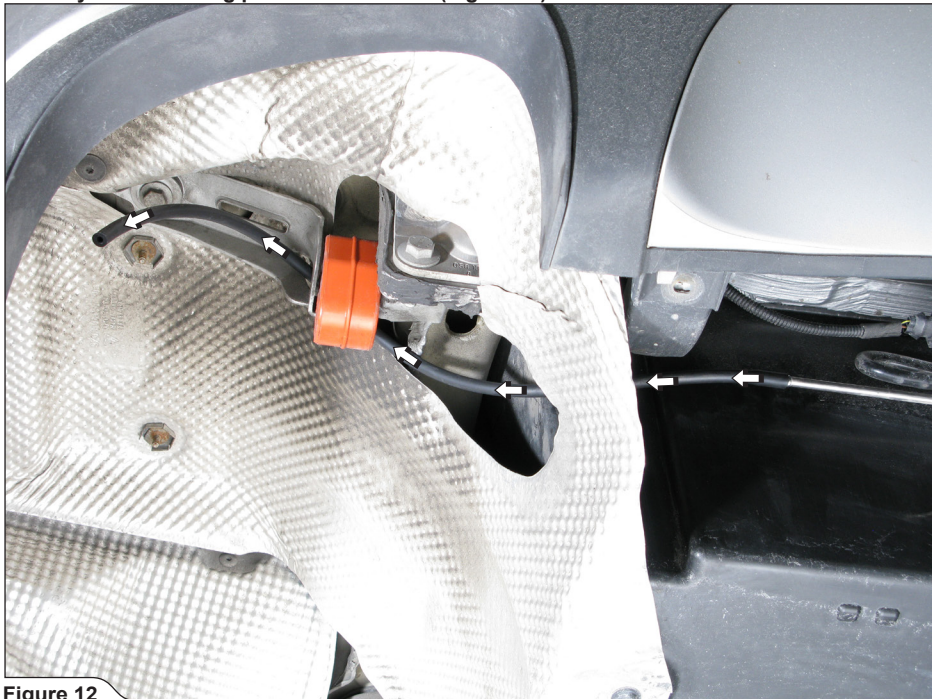

Figure 12
1. **For vehicle models equipped with original exhaust system flaps only:** direct the vacuum rubber hoses from Akrapovič installation kit, exactly as shown (Figure 12, 13).
- !** **WARNING:** direct and secure the rubber vacuum hose in such a way, that it doesn't touch any hot or moving parts of the vehicle (Figure 12)!